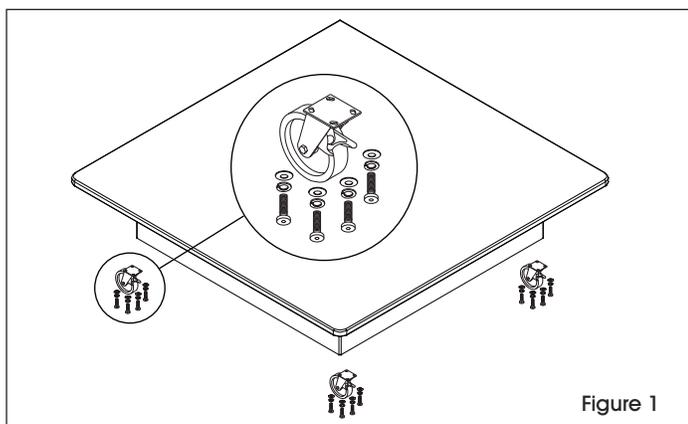

Figure 1
1. Attach casters to bottom of the bottom table using four bolts, washers and locking washers per caster and the enclosed Allen wrench. (See Figure 1)